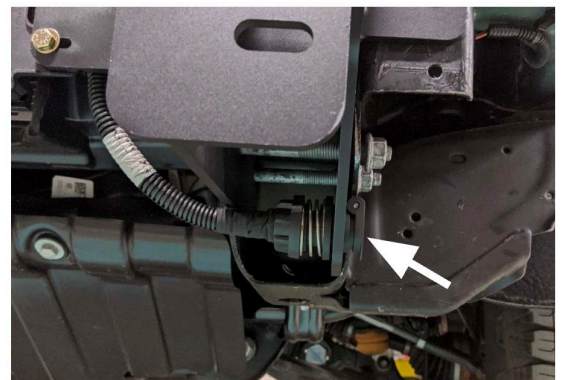

Figure 20.
18. Reverse the process in step 16 to install the heater plug into the driver side mounting bracket. Reconnect the heater plug wiring harness before mounting the bumper. Figure 20.